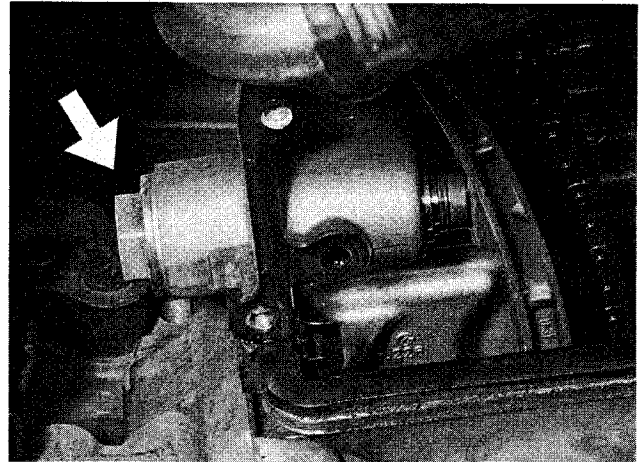

Fig. 13. Hydraulic chain tensioner (arrow).
28. Remove hydraulic chain tensioner from right side of cylinder head. See Fig. 13.